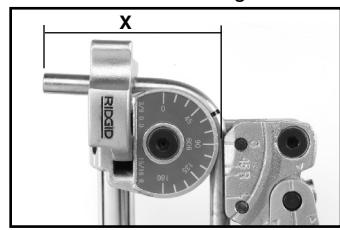
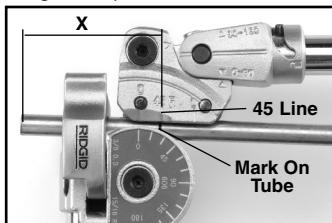

Figure 7 – After
Figure 10 – Before
- With the mark on the tube appropriately aligned, move the Carriage so that the "0" Line aligns with the 90 degree line on the Form. (See Figures 7 and 9 – After).
- Mark the tube at the desired distance (X) from the feature (end of tube, bend, etc.). The center of the arc segment will be this distance from the feature.
- Align the mark on the tube with the 45° line on the Carriage (see Figure 10).